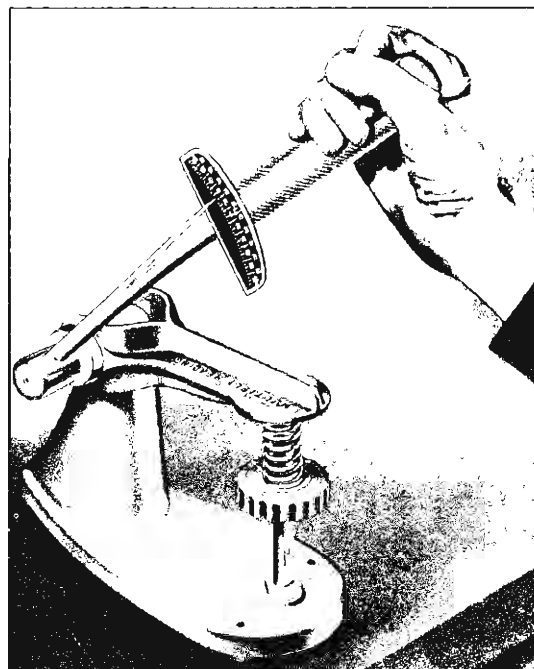

Fig. 15—Checking Valve Spring Tension
4. Check valve spring tension with Tool J-8056 spring tester (fig. 15).